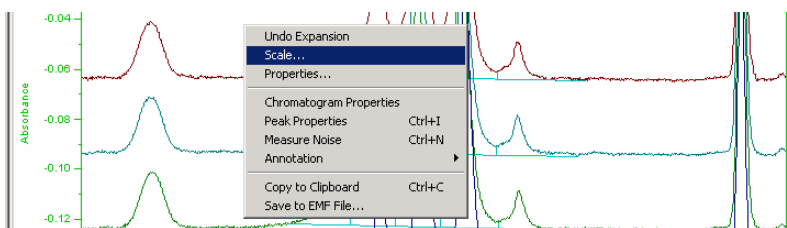

Figure A-56: Scale Menu—Changing the Scale
8. To change the scale, as shown in Figure A-56, right-click on the mouse, then, click **Scale...** to open Plot Scale window.
9. As shown in Figure A-56: